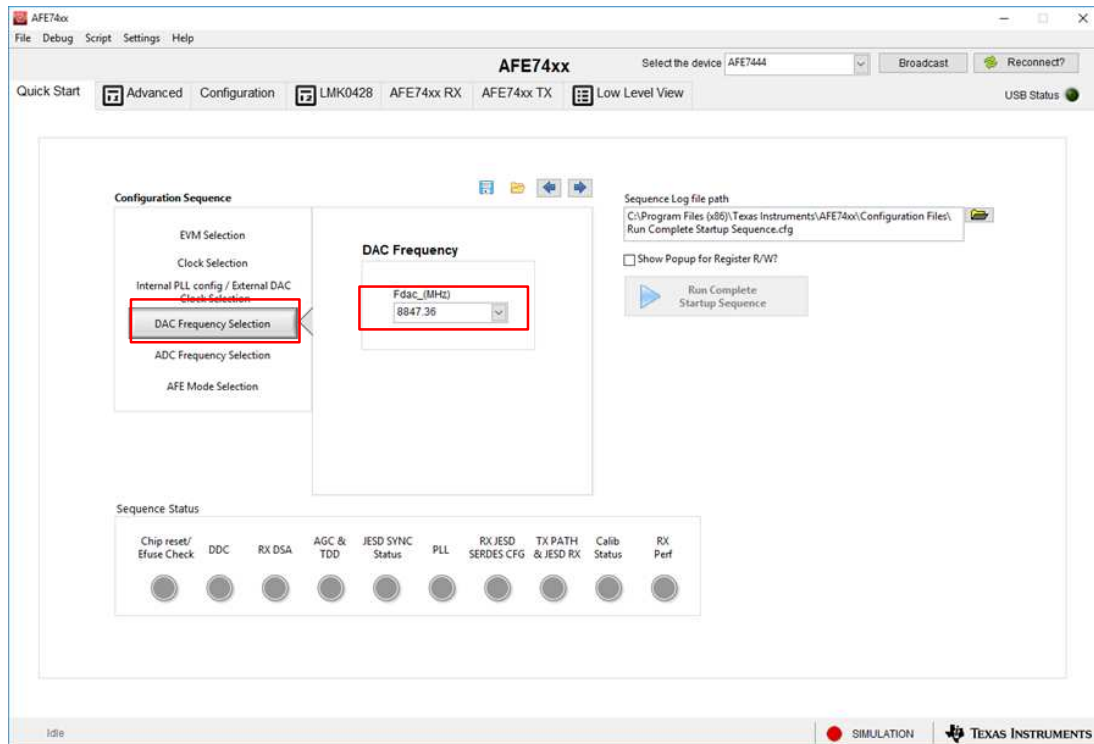

Figure 4. DAC Frequency Selection
3. Click the *DAC Frequency Selection* button, and select a DAC clock frequency of 8847.36 MHz, as shown in Figure 4.